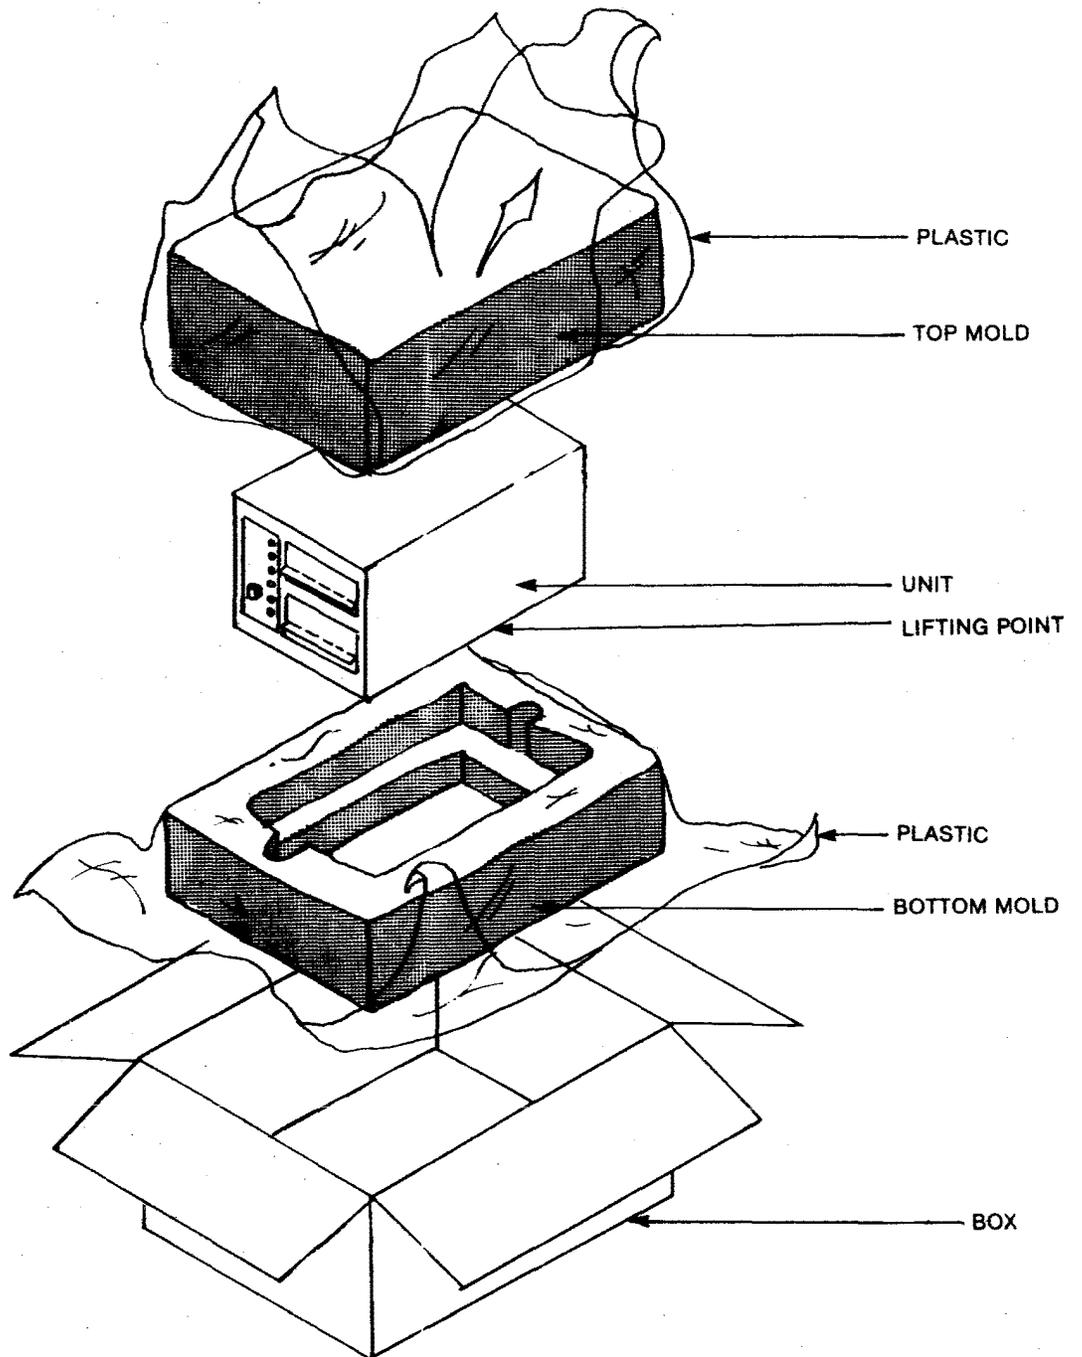

Fig. 3 — Packaging Components
#### B. Unpacking Instructions (Fig. 3)
- (d) Lift the Comm-Stor II unit out of the box. (Refer to Fig. 3 for lifting points).